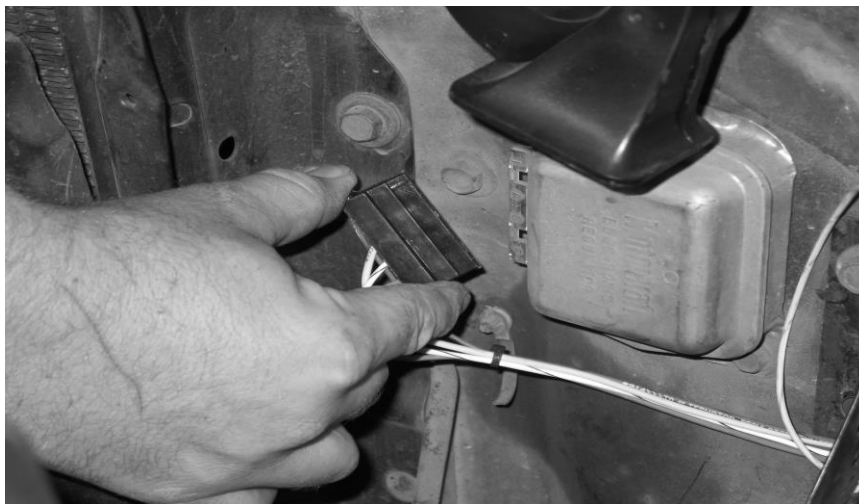

Figure 7-3 Voltage Regulator Connection '67-'77 Models
7.1.3 Locate the Voltage Regulator Connector in the PASSENGER SIDE SECTION and plug it into the Voltage Regulator, which is on the passenger's side engine compartment on the core support. **Note: It is critical to have the Voltage Regulator's housing grounded for proper operation. See Figure 7-3.**